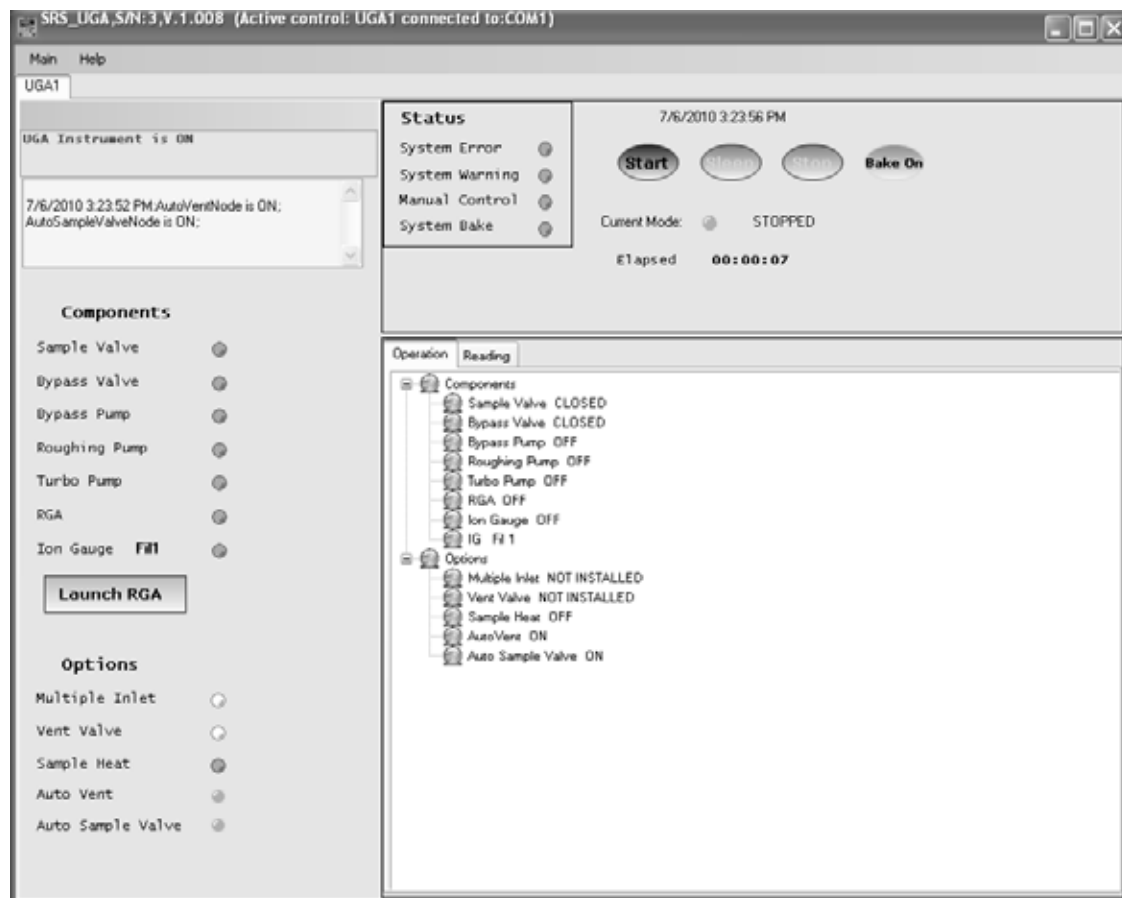

Fig. 2-15. Screenshot of UGA control software after proper serial connection. In the title bar, the connection status is shown.
9. The following screen (See Fig. 2-15 on the next page) will appear at the UGA control program. In the title, the connection port is indicated.